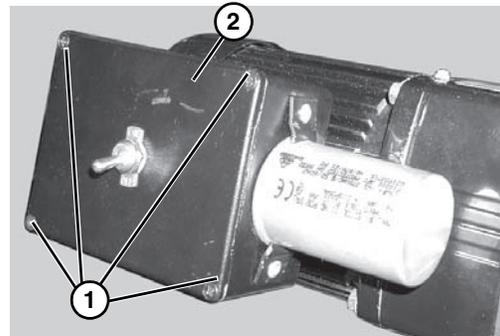

Figure 13
- a. Loosen terminal box screws (**Figure 13, item 1**) and remove cover (**Figure 13, item 2**).